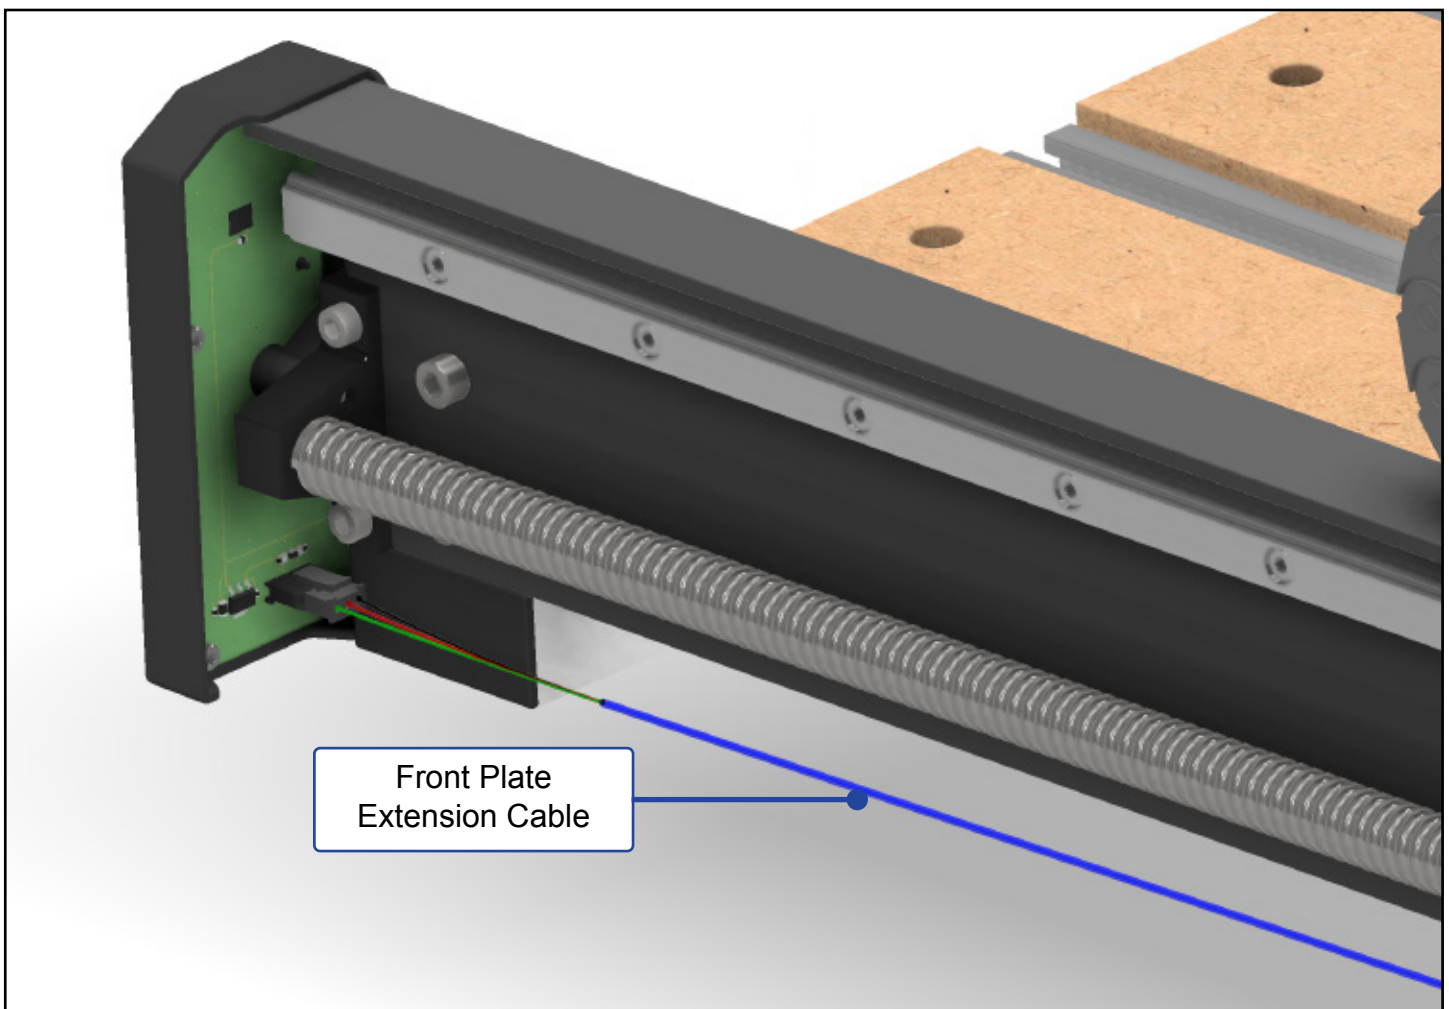

Figure 4-5
2. Plug the cable's 3-pin connector into the 3-pin connector on the back side of the front plate. See **Fig. 4-5**.